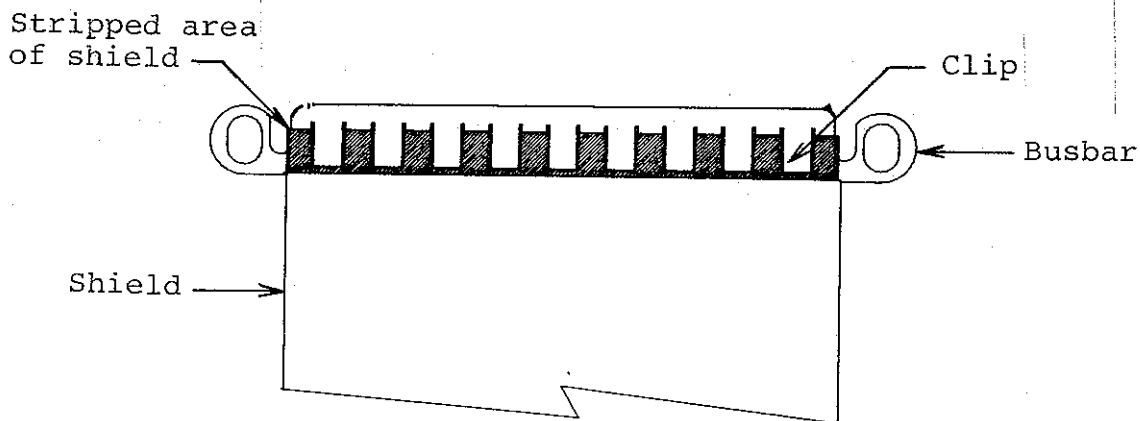

Figure 6. Inserting Prepared Inter-Layer Shield into Clips of Busbar
8. Insert the end of the shield into the clips of the busbar as shown in Figure 6.